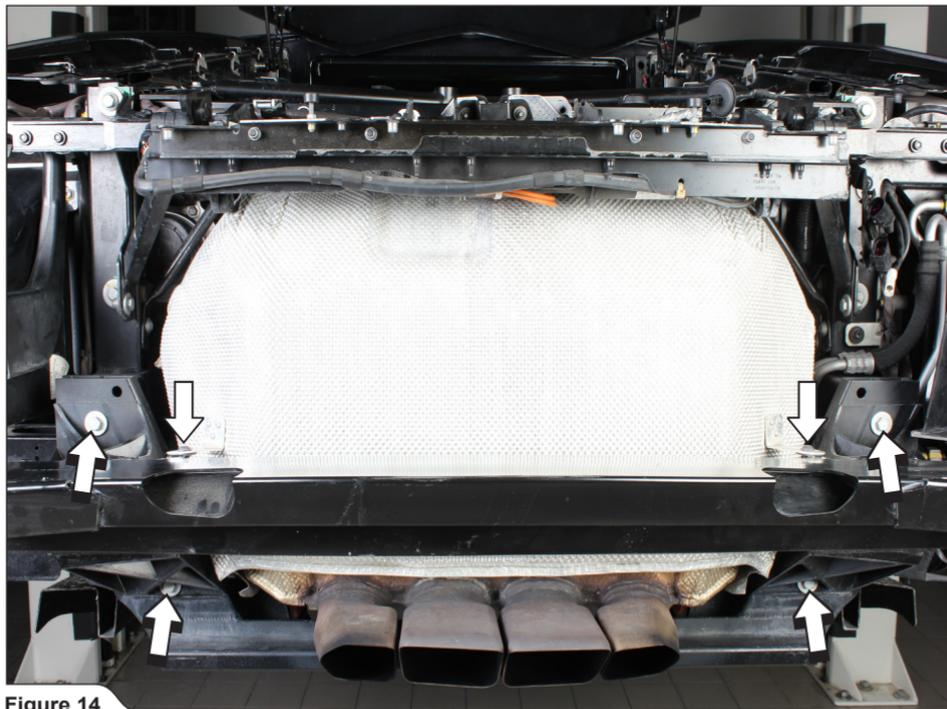

Figure 14
7. Unscrew the marked bolts and carefully remove the impact absorber (Figure 14).